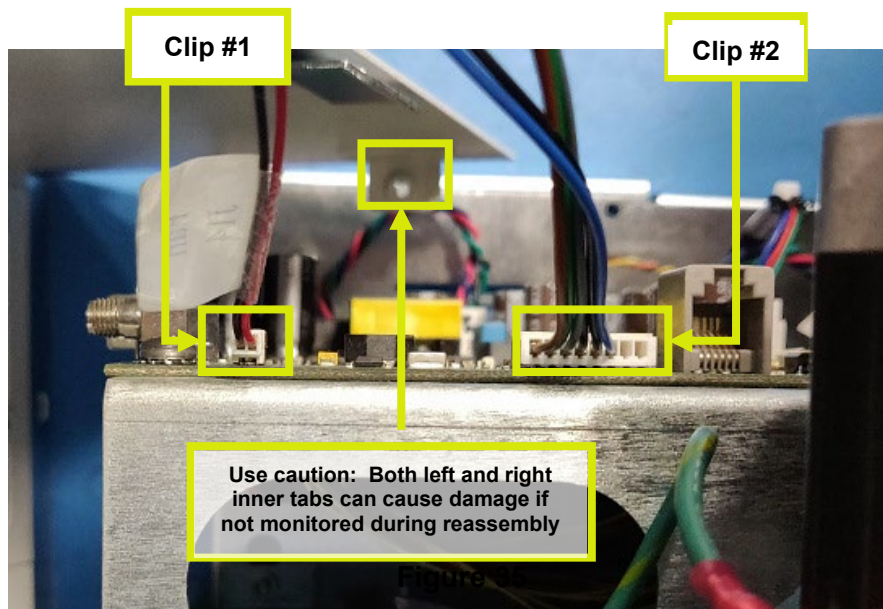

Figure 36
- 9.4. Attached the two cable wires leading from the printer to the main electronics board. Place the panel in a leaning manner to account for the inner tabs, avoid damaging any components inside the analyzer. Figure 36